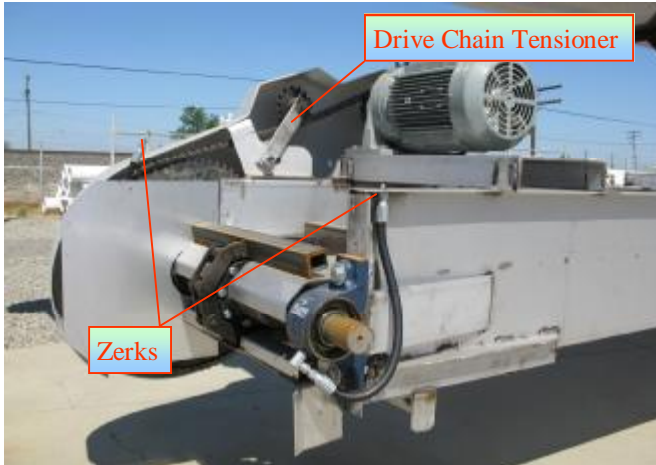

Fig 1 Grease Zerk Locations
1. Grease top Shaft bearings (5 shots every month - figure 1)
2. Check drive chain tension (chain will stretch over time and will need a link removed - figure 1)
1. Clean out the UHMW bearing slide housing (so the bearing will slide freely) (figure 1)